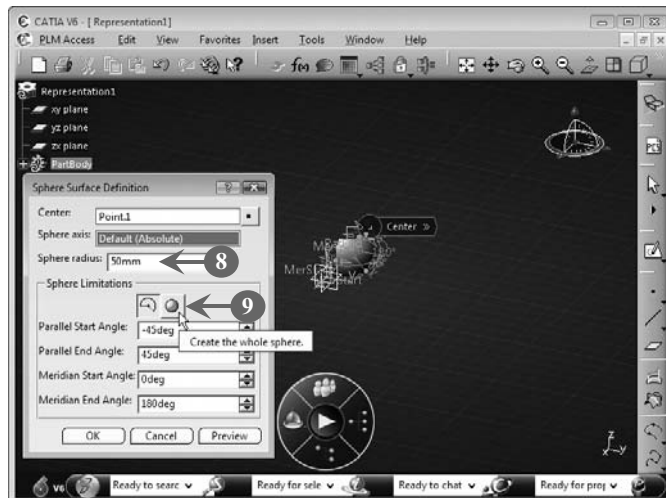

FIGURE 5.43
The center for the spherical surface is created and added to the **Center** box in the **Sphere Surface Definition** dialog box (Figure 5.43). Notice that the default axis system is added to the **Sphere axis** box in the **Sphere Surface Definition** dialog box. In our case, we continue with the default value for the sphere axis.
8. Enter a value representing the radius of the spherical surface in the **Sphere radius** box (Figure 5.43). In our case, we have entered **50 mm**.
9. Click the **Create the whole sphere** button to create the complete sphere, as shown in Figure 5.43: